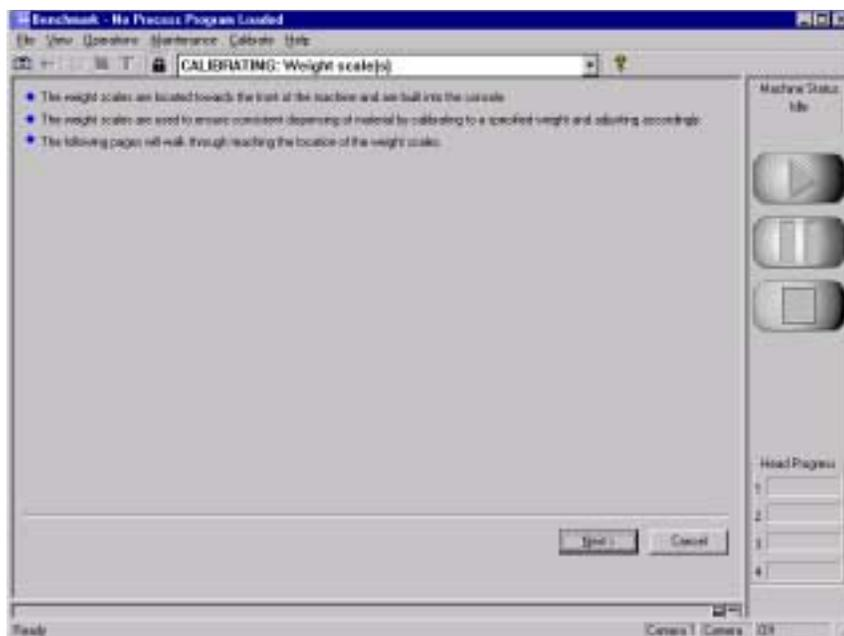

Figure 2
1. Select **Calibrate > Weight Scale Position** from the menu on the Machine screen. The first screen for teaching Weight Scale position appears. See Figure 2.